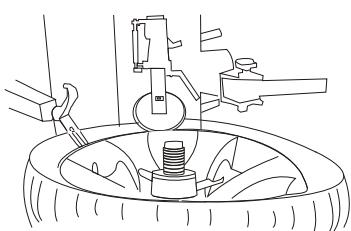

Fig 9
4. Adjust the lower bead breaker controller; Raise the tool head tab until the lower bead is 10mm – 20mm above the upper lip of the rim. Use the video monitor to observe the distance between the bead breaker and the wheel rim around 5-10mm. Depress the turntable rotation pedal to rotate the turntable clockwise until the lower bead is off the rim. (Fig.9)